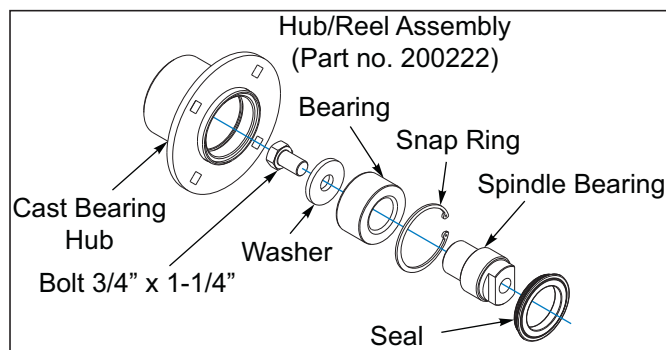

Figure 5-6: Hub Reel Assembly
1. The bearings used for the double reels are a maintenance free bearing, not requiring any grease. If a bearing needs replaced, a bearing and hub assembly is available (P/N-200222) for your convenience. Should you choose, the parts are also available to rebuild the hub as needed **See Figure 5-6.**